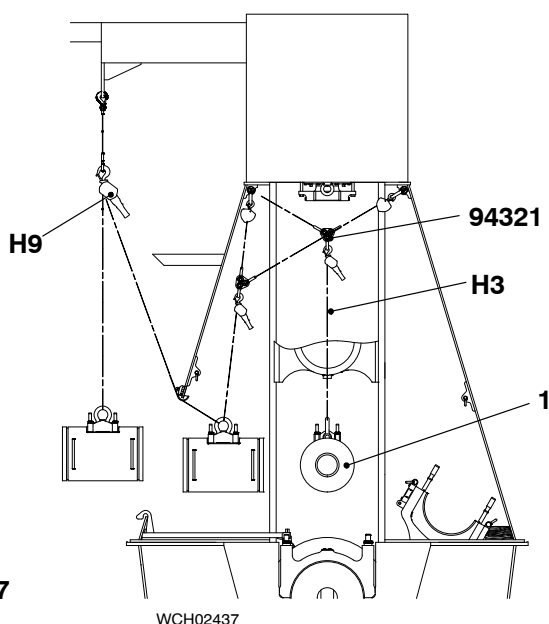

Fig. 7
- 4) Attach the two manual ratchets (H3, H9, Fig. 7) to the eye bolt on the crosshead (1).
- 5) Tighten the manual ratchet (H3, Fig. 7). At the same time, carefully loosen the manual ratchet (H9) to move the crosshead pin (1) into the engine.